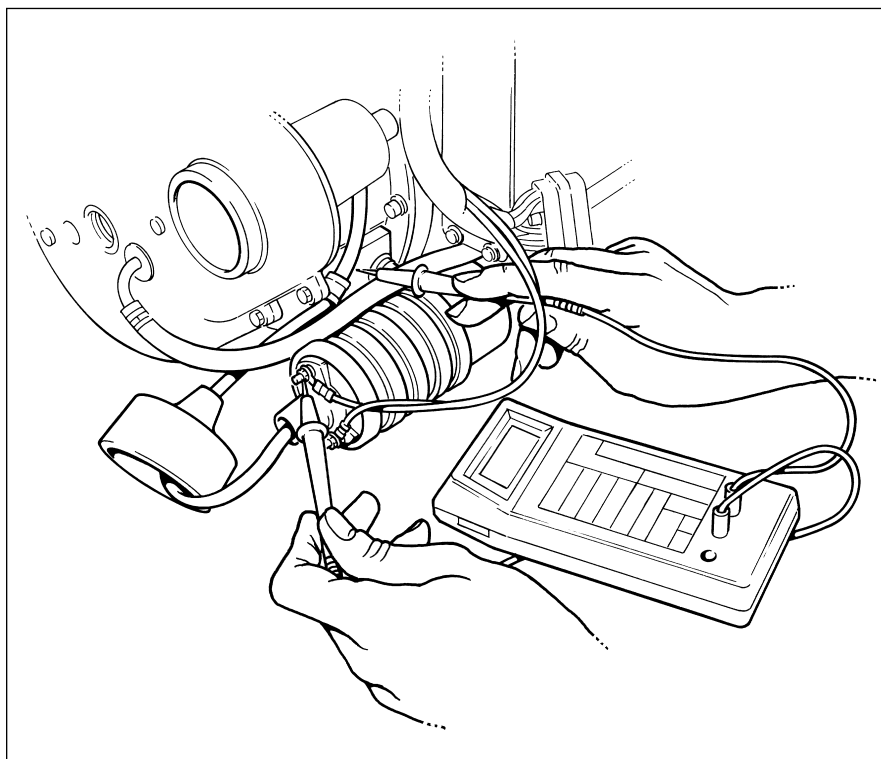
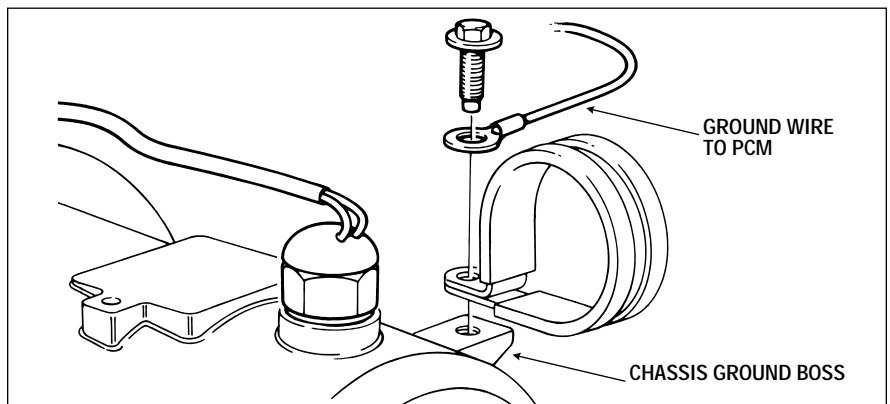

Figure 5-3 Heater Voltage Measurement
Figure 5-7 PROHEAT Ground Boss
- b) Select the DC volts range of a multimeter and connect as per *Figure 5-3*. The positive lead of the multimeter should be attached to the positive coil lead. The negative lead of the multimeter should be attached to the heater chassis at the PROHEAT ground boss. (*Figure 5-7*)
NOTE: The body of the fuel pump is grounded to the PROHEAT chassis. The PROHEAT chassis is grounded through the PCM by a black-green wire attached to the PROHEAT ground boss. (See Figure 5-7)
- b) That ground wire is connected. (See Figure 5-7)